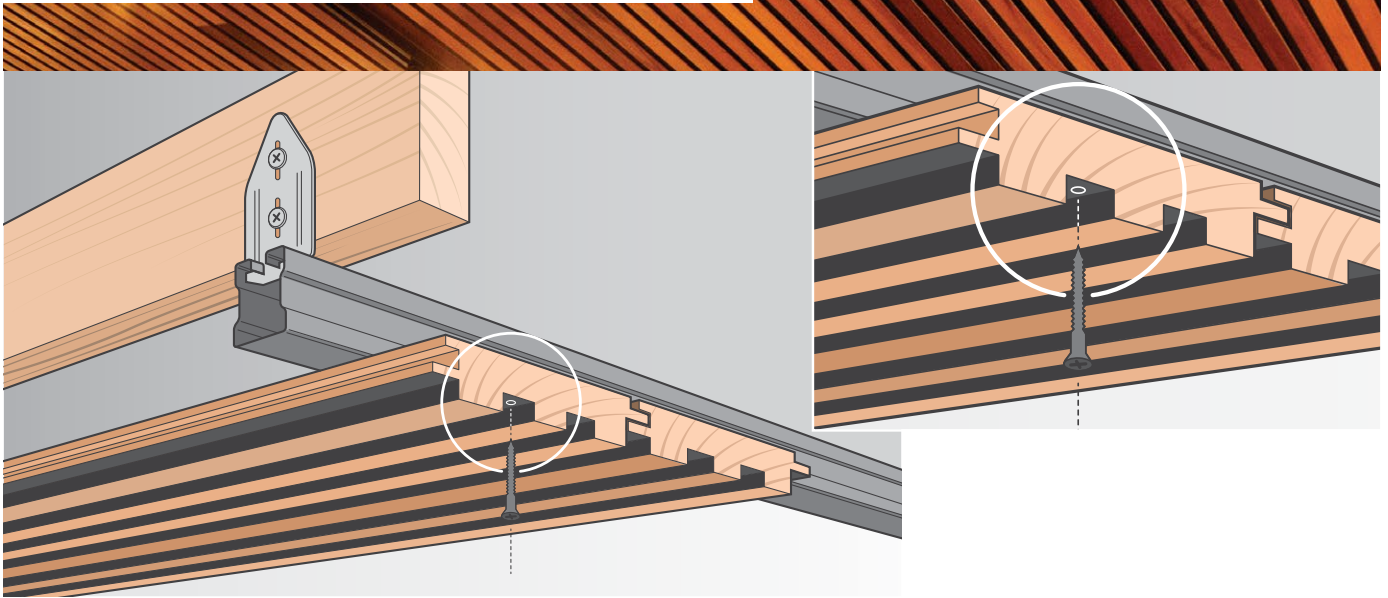

Figure 3: Panelling installation using metal track system and face fix: face screw directly using a coloured head screw [see Figure 4].
- Castelation® panelling with channels, can be screwed through the channel to the metal track. One screw per board, per track is sufficient [see Figure 3]. This works particularly well with the Castelation® TwoTone product as the screw heads can be painted the same colour as the channels.